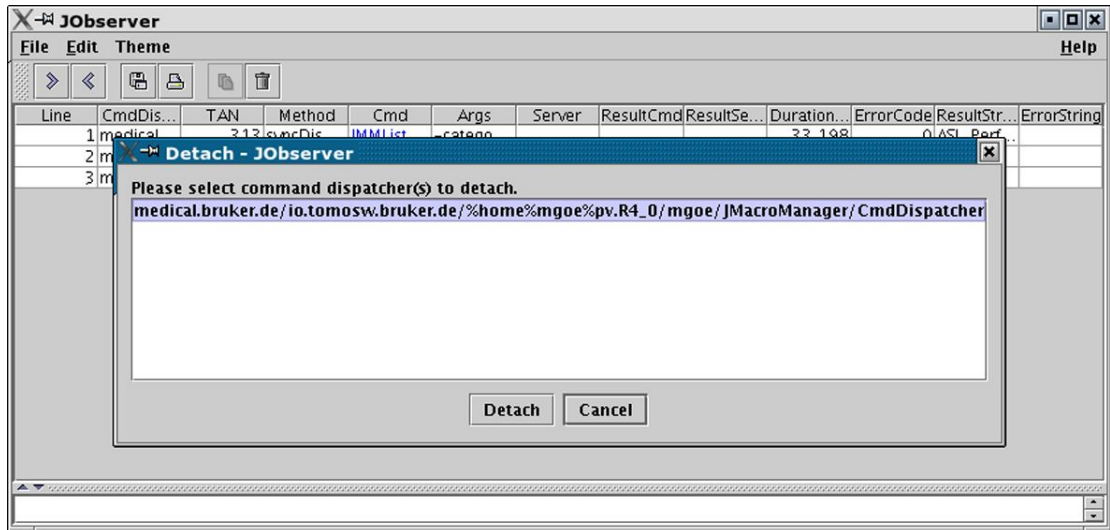

Figure 3.37: Detaching a Server Application from Cmd Observer
3. Detach from the server application (see [Figure 3.37 \[p 719\]](#)).